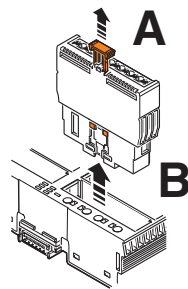

Figure 11-13 Removing a Smart Element
- Before removing a backplane, remove the Smart Elements from the backplane. To do so, pull up the release mechanism vertically (Figure 11-13, A) and remove the Smart Element (Figure 11-13, B).